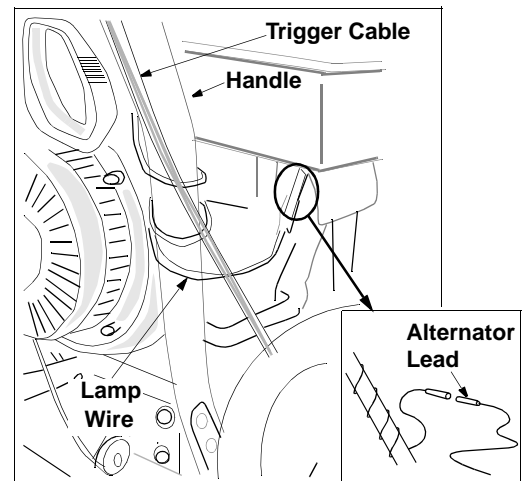

Figure 15
- Wrap the wire from the lamp down the right handle as shown in Figure 15.
- Plug wire into the alternator lead wire under the fuel tank. See Figure 15.